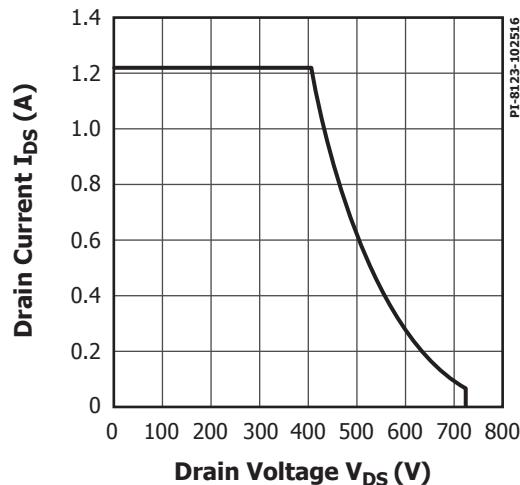

Figure 17. Maximum Allowable Drain Current vs. Drain Voltage.
2. See Figure 17, for $V_{DS} > 400\text{ V}$.